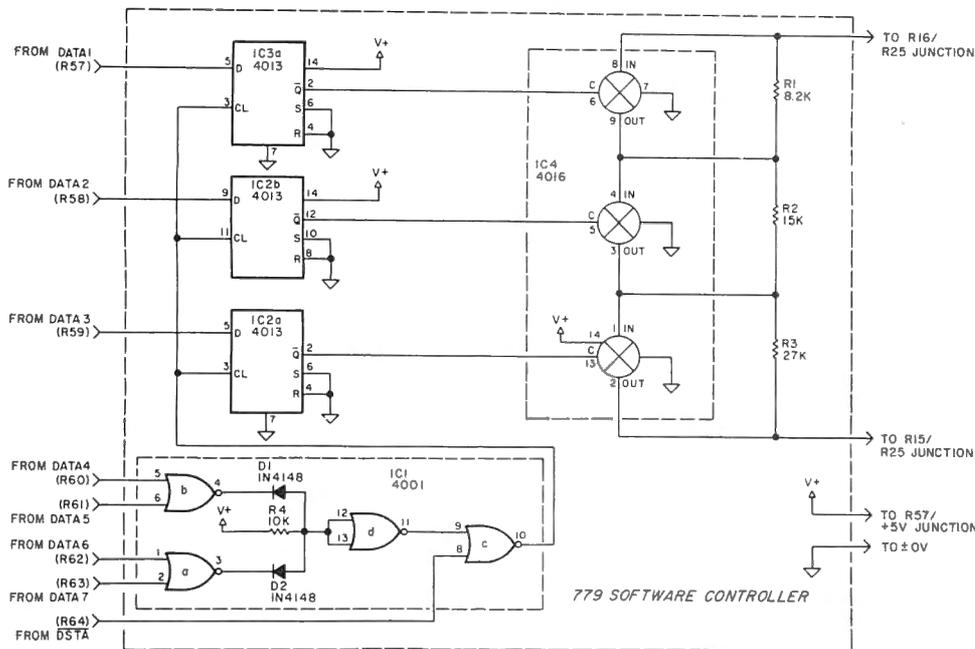

Fig. 2.
It is more desirable to allow the program to directly control the print density without your intervention. The circuit shown in Fig. 2 will automatically change the print density when the LPRINT CHR\$(X) statement is executed. As indicated in the service manual, a print command causes the computer to place data on lines 1 through 7. After about one μ s, the com-